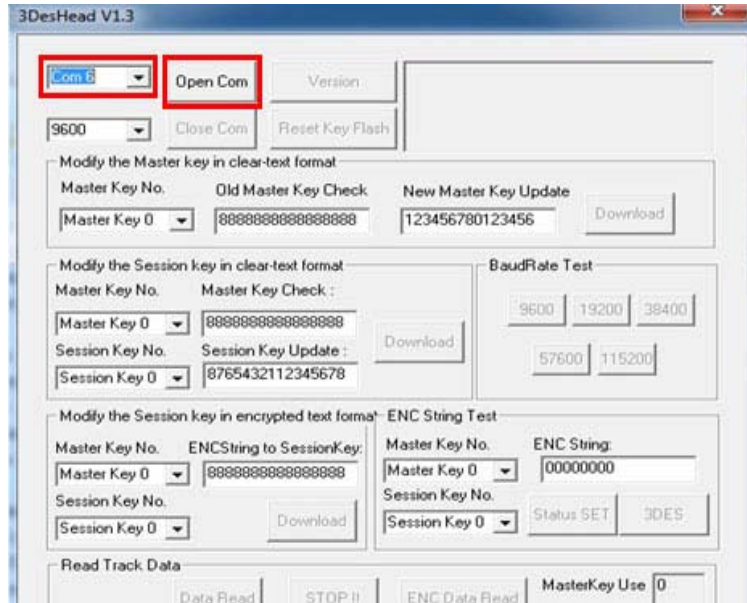

Figure 3-26: 3DesHeadV1.3 – Open COM
Step 3: Select the COM port connected to the MSR according to the information gained from **Step 2**. Then, click the **Open Com** button. See **Figure 3-26**.